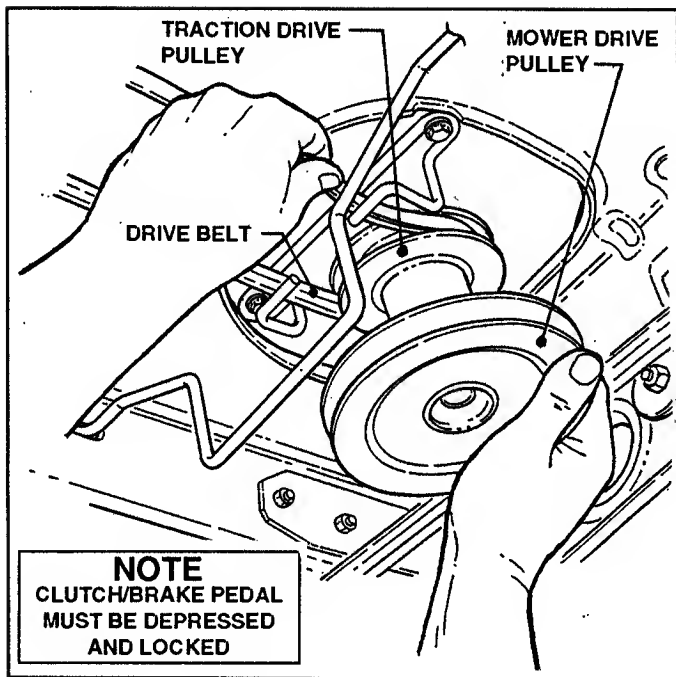

FIGURE 54
8. Remove DRIVE BELT from engine pulley. See Figure 54.